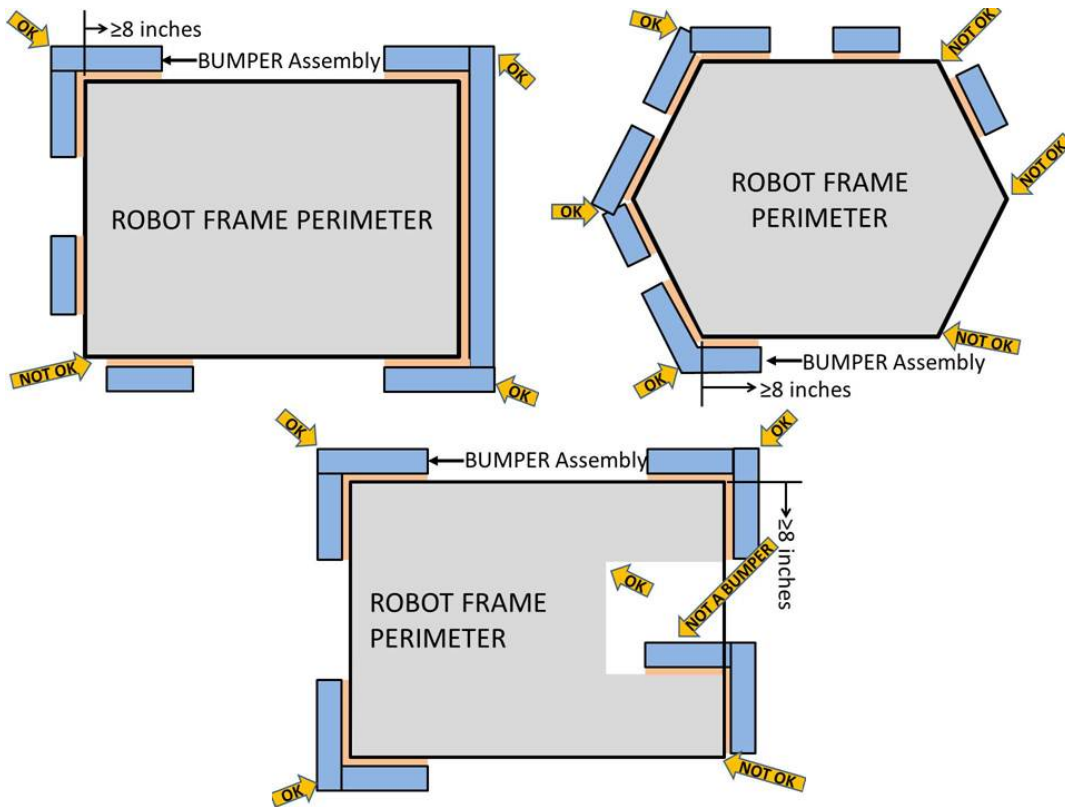
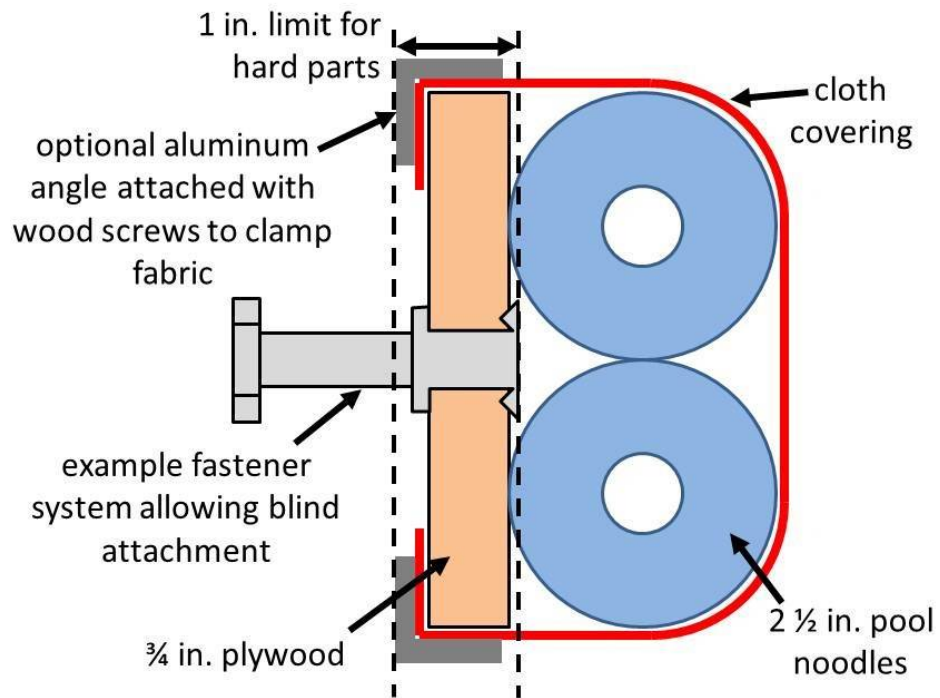

Figure 4-2: BUMPER Corner Examples
Figure 4-4: BUMPER Cross Section
ROBOTS are required to use BUMPERS to protect all outside corners of the FRAME PERIMETER. For adequate protection, at least 8 in. of BUMPER must be placed on each side of each outside corner (see Figure 4-2).
BUMPERS must be constructed as follows (see Figure 4-4):
- C. use a stacked pair of approximately 2 ½ in. round, petal, or hex “pool noodles” (solid or hollow) as the BUMPER cushion material (see Figure 4-4). Cushion material may extend up to 2 ½ in. beyond the end of the plywood (see Figure 4-2).